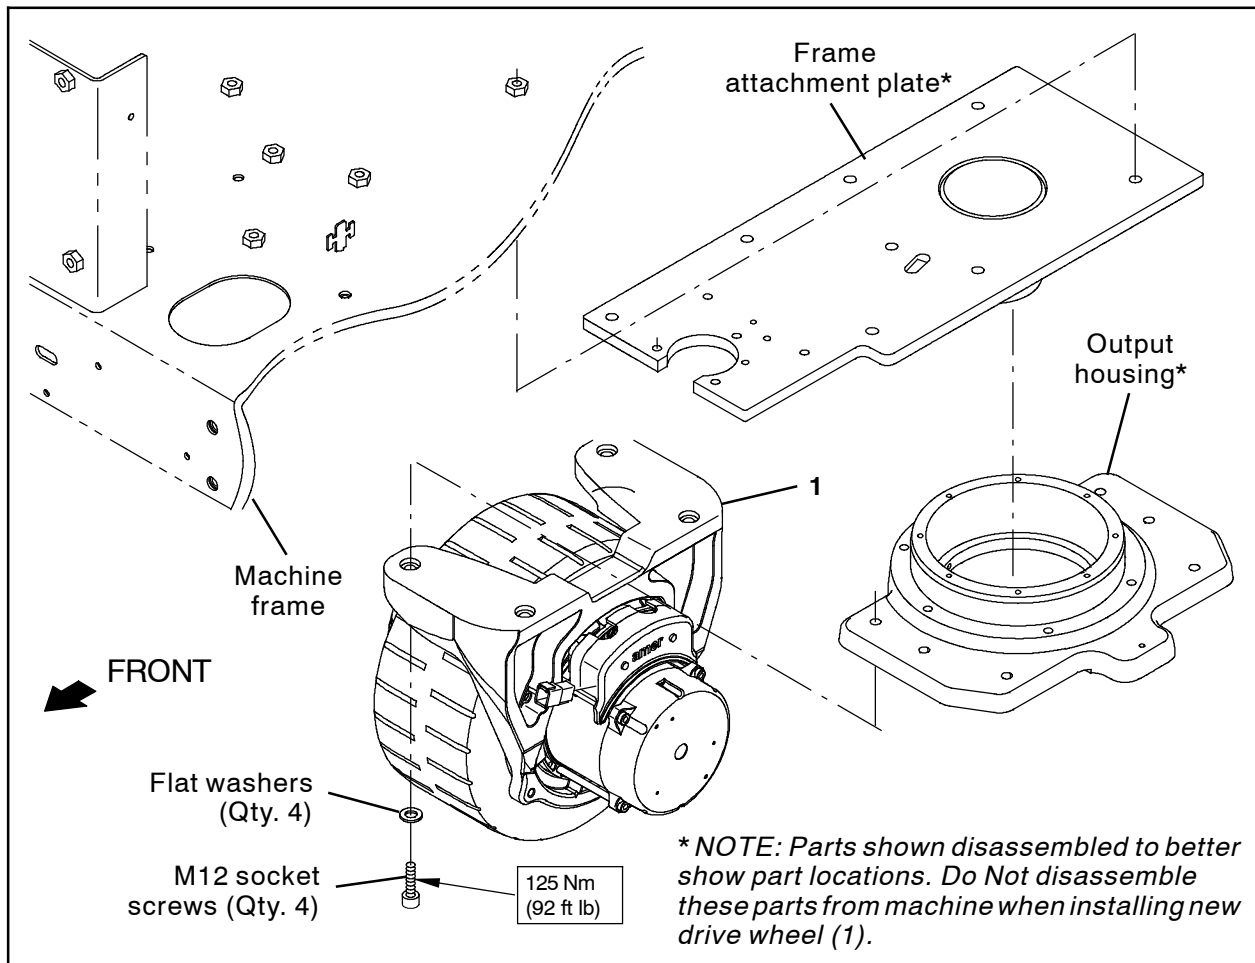

FIG. 2
3. Loosen the four M12 socket screws securing the drive wheel to the output housing. Do not remove the four socket screws. (Fig. 2)
6. Remove the four previously loosened M12 socket screws. Set the M12 socket screws and flat washers aside. (Fig. 2)
8. Carefully remove the front drive wheel from under the machine. Discard the drive wheel. (Fig. 2)
11. Place the new drive wheel (1) onto the jack, position the jack underneath the machine, and raise the drive wheel up to the output housing. (Fig. 2)
12. Use the four M12 socket screws to safely secure the drive wheel (1) to the output housing. (Fig. 2)
15. Tighten the four M12 socket screws to Torque the M12 socket screws to 125 Nm (92 ft. lbs). (Fig. 2)